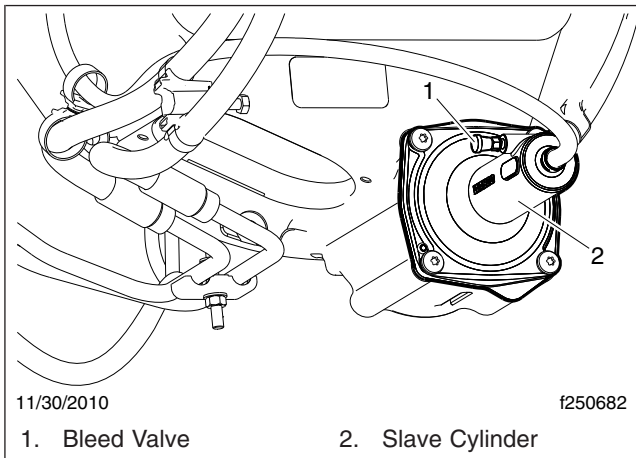

Fig. 7, Slave Cylinder, Hydraulic Clutch Control
- 4.2 Remove the cap from the bleed valve of the slave cylinder. See Fig. 7. On the valve, install a transparent drain hose connected to a catch bottle. The hose needs to fit the bleed valve tight enough so it does not fall off when fluid is pumped out.
- 3. Remove the cap from the bleed valve of the slave cylinder. See Fig. 7. On the valve, install a transparent drain hose connected to a catch